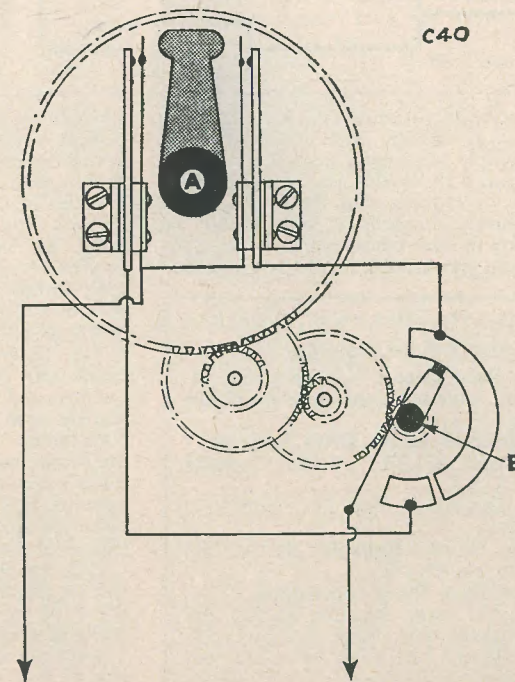

Fig. 40. The large gear wheel is mounted loosely on the shaft of A.
The principle is shown in Figs. 40 and 41. Fig. 40 is the control box. When the knob A is turned, one or other of the two contact pairs close under mechanical pressure and further movement, transmitted through them, rotates the pulsing wheel B through a 40:1 gear train. The latter (B) carries a brush which rotates against two conducting segments, one short and one long. One or other of these is brought into circuit according to which contact pair was originally closed. The brush as it rotates keys the transmitter; the number of pulses sent depends directly on how many times the brush rotates, i.e. how far the knob is turned. The type of pulse sent (long or short) depends on the way the knob is turned (to port or starboard).